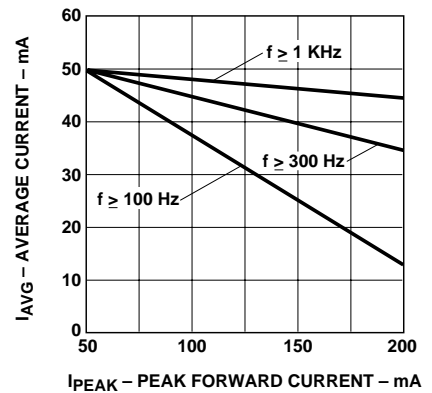

Figure 5. Maximum average current vs. peak forward current.
- Refer to Figure 5 to establish pulsed operating conditions.